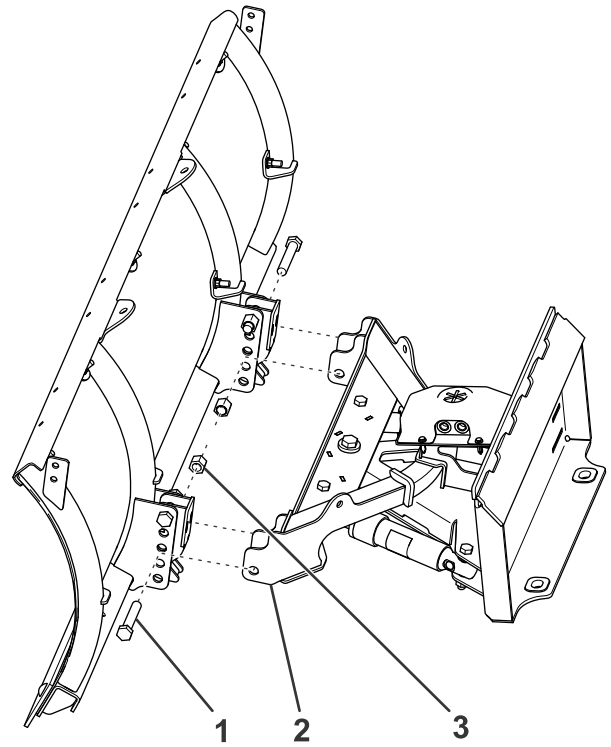

Figure 4
2. Loosely secure the push frame to the plow and mounting brackets using 2 bolts (5/8 inch) and nuts (Figure 4).